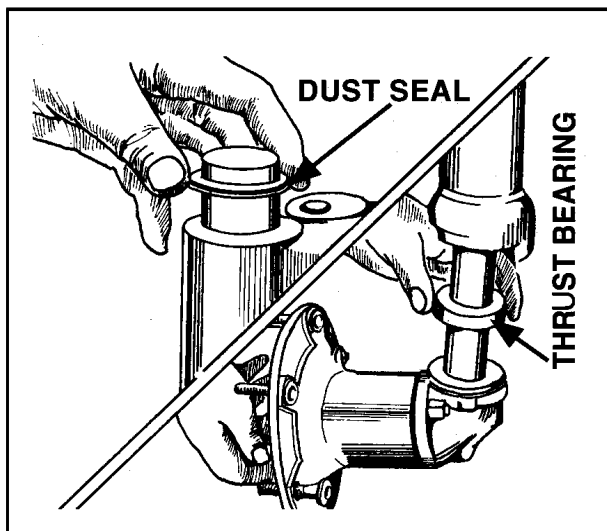

Figure 7
3. Install a new wheel spindle dust seal with the groove in the periphery of the seal nearest the base Figure 7.